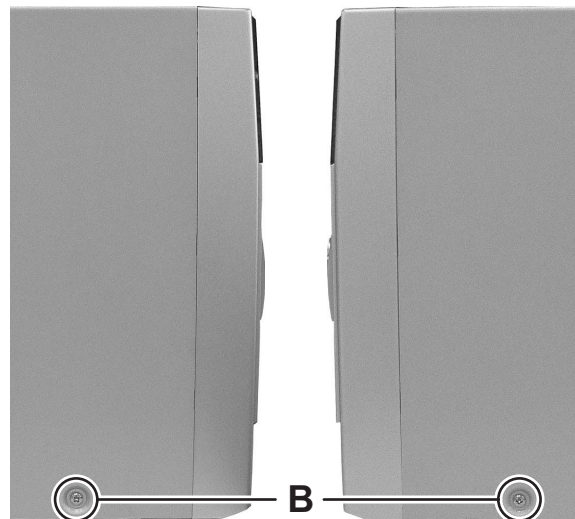

Fig.2
- (2) Remove the two screws **B** attaching the both side of metal cover. (See Fig.2)
(See Fig.2 and 3)
- (1) Press slide cam and pull out the tray assembly to direction of the arrow from right side of CD mechanism assembly. (See Fig.2)